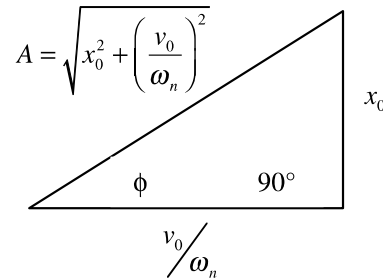

Figure 1.7
- 1.17** Using the drawing in Figure 1.7, verify that equation (1.10) satisfies the initial velocity condition.